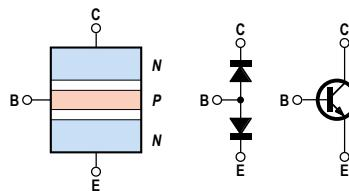
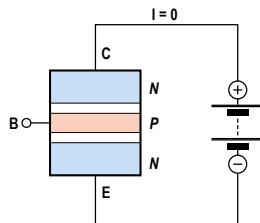

Figure 9. NPN transistor.
Figure 10. No current flows in transistor.
First let's consider the NPN transistor, whose structure and equivalent circuit diagram are shown in **Figure 9**. The individual regions of the transistor are called the emitter (E), the base (B) and the collector (C). For proper operation the base region must be very thin. First consider the situation with the transistor connected to a voltage source, with the emitter connected to the negative terminal and the base lead unconnected (**Figure 10**). No current flows in this situation because the base-collector junction is reverse biased.